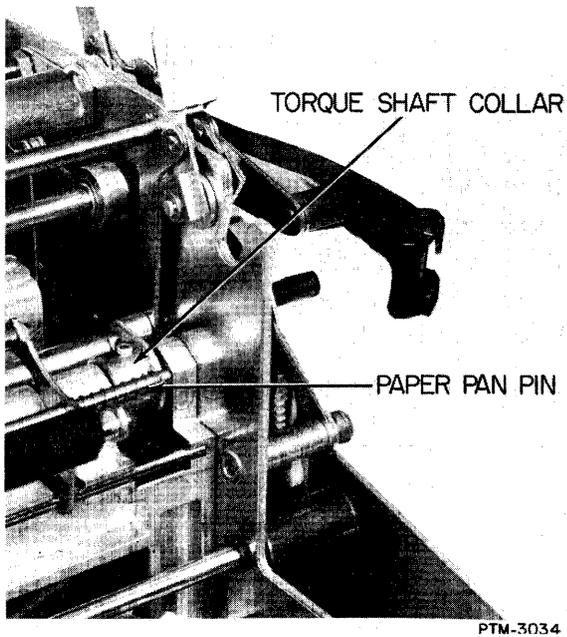

Figure 5-23. Paper Pressure Adjustment.
The paper pan is held by a pin under each end of the pan. The pin on the right side is spring loaded (see Figure 5-23). Push this pin in toward the left with a small screwdriver and lift the right side up. Move the pan to the left and lift out of the machine. To install the paper pan, engage the right side over the spring loaded pin and move the pan to the left. Drop the left side over the pin and move the pan to the right.
2. Loosen the set screw in the collar on the torque shaft (see Figure 5-23).